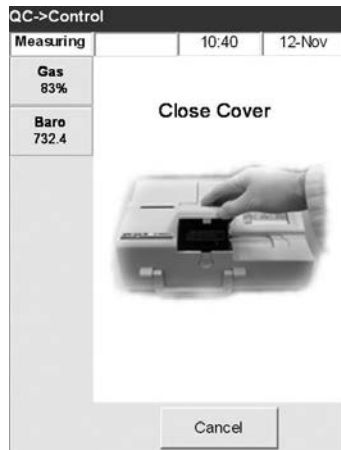

Fig. 4-20 Close Cover
10. Close the SMC cover (Fig. 4-20).